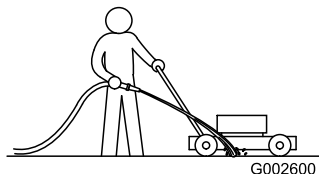

Figure 35
3. With the engine running and the blade engaged, spray a stream of water in front of the **right**, rear wheel (Figure 35).